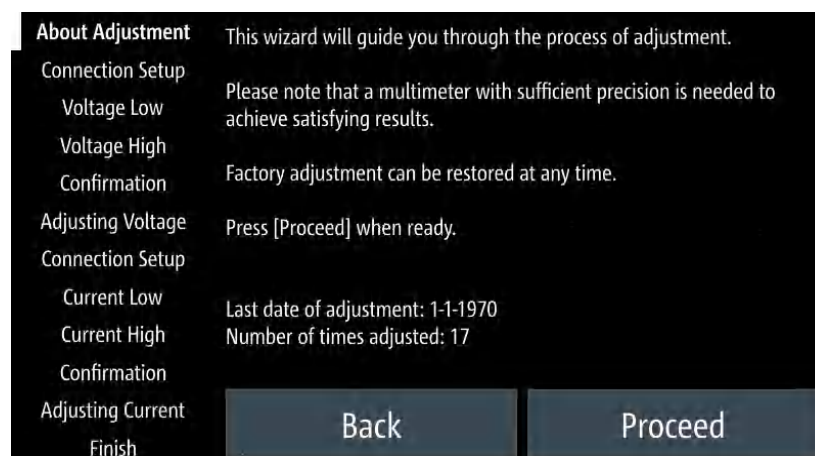

Figure 6-49: Channel adjustment wizard
5. Follow the on-screen instructions displayed in the Figure 6-49.